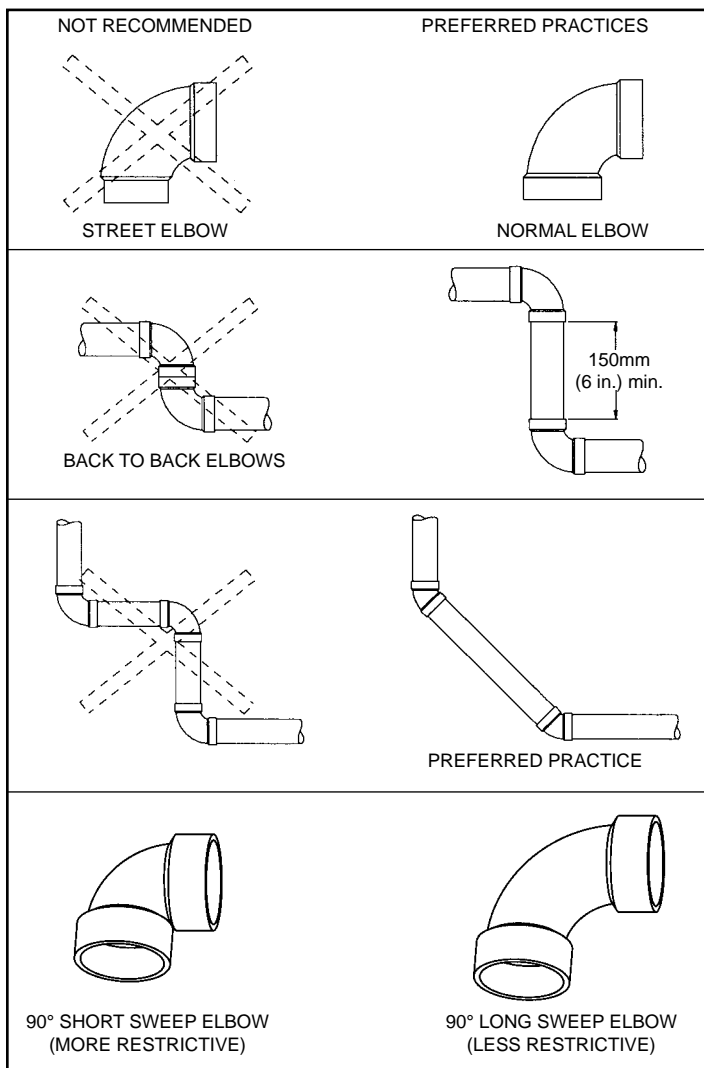

Figure 13
**Note:** The information provided in Figure 13 is intended as a guideline for good vent installation practices only and is not intended to restrict venting options beyond those restrictions established by the latest edition of the **"Natural Gas and Propane Installation Codes" B149.1** or any applicable local and provincial codes.
4. Avoid the use of 90 degree elbows "back to back" and do not use street elbows. Maintain a minimum 150mm (6 in.) straight section between elbows. Closely coupled and short radius elbows reduce the venting capacity. Figure 13 shows examples of vent pipe connections.
5. **DO NOT USE AN ELBOW AS A SUPPORT POINT.** Elbows are not designed to carry the weight of the venting system. Figure 13 shows examples of vent pipe connections.